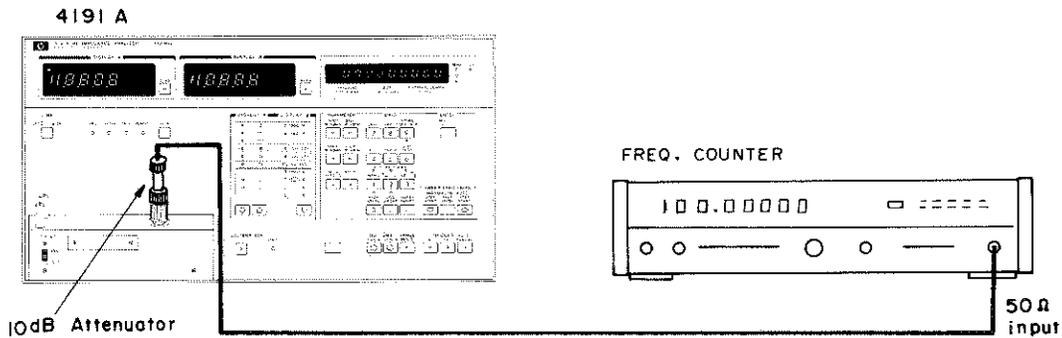

Figure 4-1. Measurement Frequency Accuracy Test Setup.
1. Connect the 10dB attenuator and the connection cable between the frequency counter input and the 4191A UNKNOWN connector as illustrated in Figure 4-1.